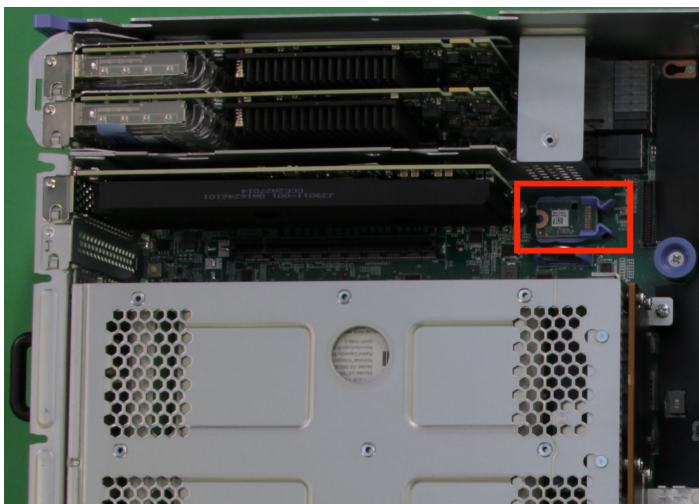

Figure 54. Locating the TPM
9. Locate the TPM, which is between the boot drive and CMOS battery, as shown in Figure 54 on page 95.